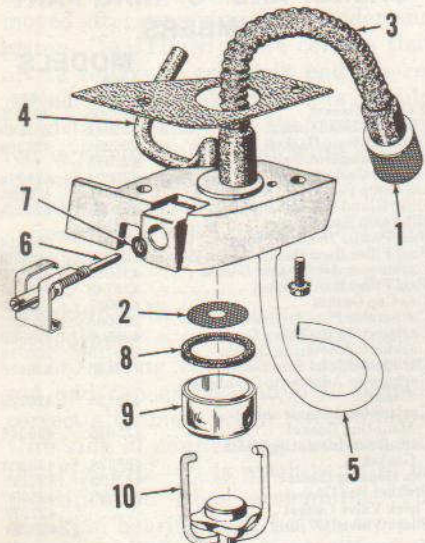

Fig. PR3-2—The fuel filter housing used on early models. Later models are not equipped with shut-off valve (6).
On all models, the carburetor is removed toward right (drive side). The longer end of fuel lever should be flush with diaphragm chamber floor. Fuel is filtered by pick-up screen (1—Fig. PR3-2) in tank, by filter (2) in bowl and again at the carburetor screen (24—Fig. PR3-1). Air leakage at fuel bowl may prevent fuel from reaching carburetor.